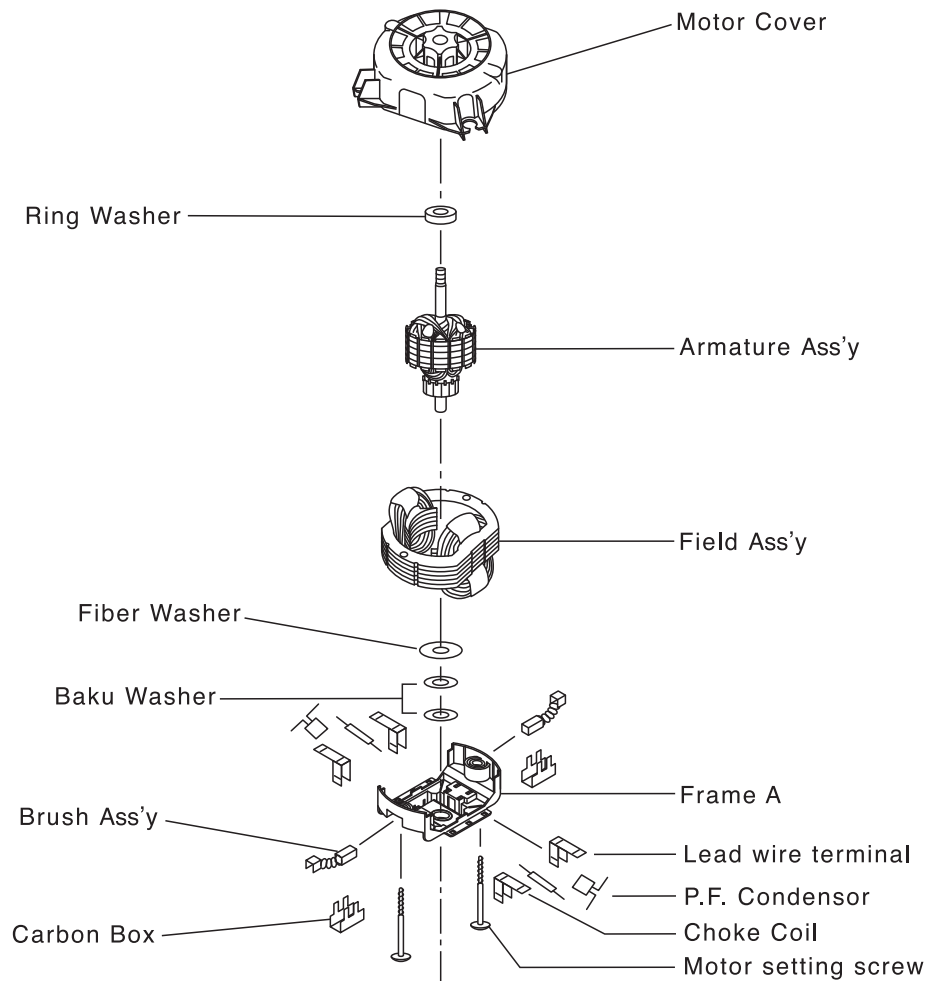

Fig. 5
5.4. Motor Cover ,Frame A ,Armature Ass'y and Field Ass'y -Fig.5